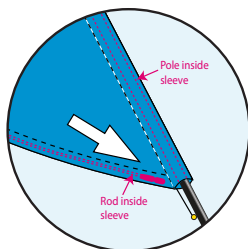
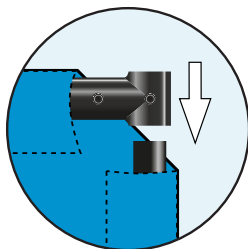

Fig 11.
Fig 12.
9. Push the carbon rod completely into the sleeve right down to the bottom, (Fig 11) this enables you to mount the arm T joint over the vertical 28mm pole section. (Fig 12)